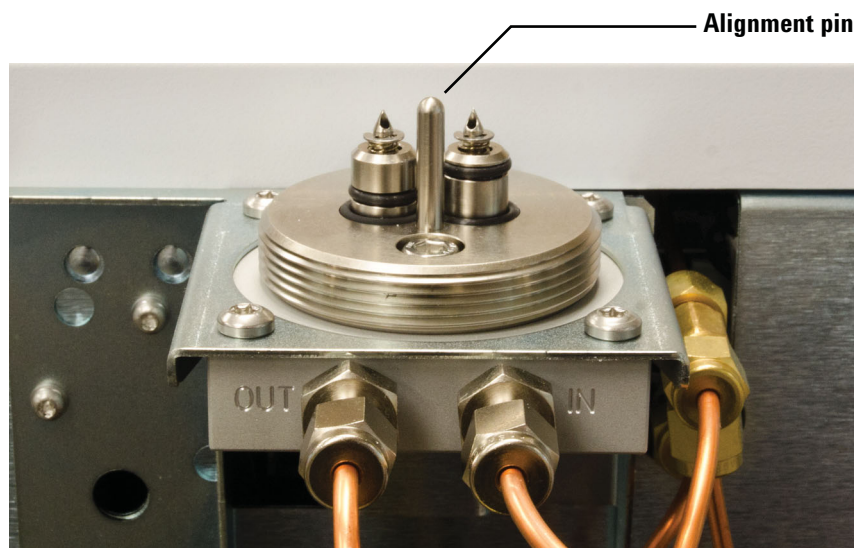

Figure 34. Alignment pin (7890 installation shown)
- 5 Place the plastic ring nut over the Carrier Gas filter, then place the filter on top of the bracket connecting unit (it will only fit one way due to the alignment pin shown in **Figure 34**). Be careful to not damage the bracket connecting unit and filter components by forcing an incorrect filter orientation.